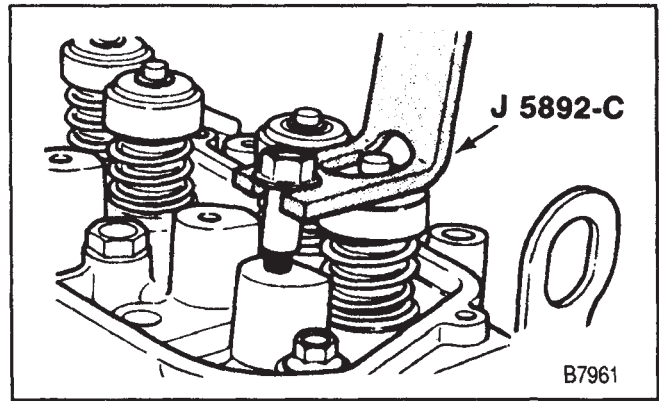

Figure 7—Compressing the Valve Spring
4. Valve keepers (30).
- C. Install a rocker arm bolt (figure 7).
- D. Use J 5892-C to compress the valve spring (figure 7).
- E. Remove the valve keepers (30).
5. Cap (28) and spring with damper (35).
6. Seal (36).
1. New seal (36). Install the seal over the valve stem and seat it against the head.
2. Spring with damper (35) and cap (28).
3. Valve keepers (30).
- A. With air pressure applied to the cylinder with J 23590, compress the spring with J 5892-C (figure 7).
- B. Install the valve keepers (30). Use grease to hold them in place.